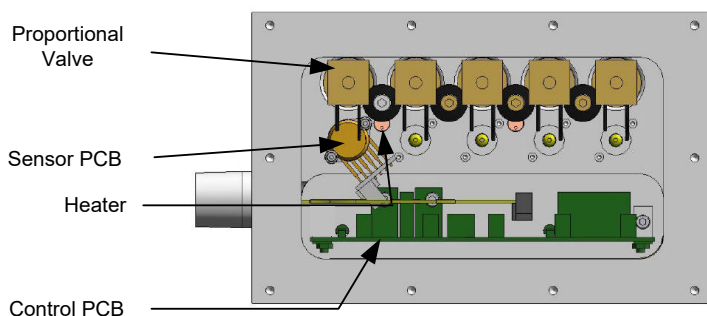

Fig. 6.8. EPC Control Assembly Components
The Zones are arranged in the EPC Control Assembly enclosure with Zone 1 on the left and Zone 5 on the right (see Figure 6.8).
5. Locate the valve to be replaced (See Figure 6.8).
3. Insert the new valve into its position in the enclosure. The wires coming out of the coil should face the Control PCB (See Figure 6.8).
5. Locate the Sensor PCBs for Zones 1 and 2 (see Figure 6.8).